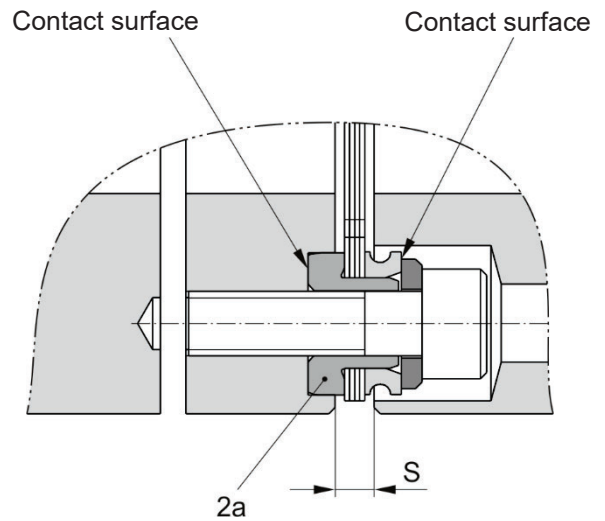

Fig. 4
Only a thin oil film is permitted on the contact surfaces of the disk packs (Fig. 4).
The disk pack (2) is to be installed in such a way that the collar bushing (Item 2a, Fig. 4) is combined with the corresponding tolerance bore in the respective hub, connection plate (4) or in the sleeve (3).
In order to prevent axial distortion of the disk packs, the dimension "S" (see Fig. 4 / page 9 and Table 1) must be maintained with aligned angular and radial shaft misalignments.